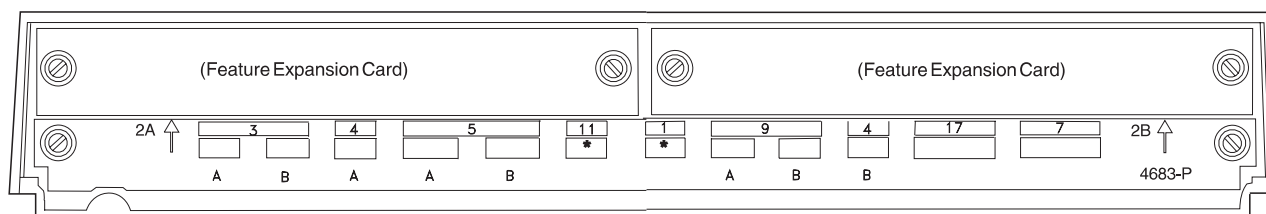

Figure 138. Rear of 4683 Point-of-Sale Terminal Base Unit
- Check "Worksheet B—Terminal installation - 4683" on page 238 for each terminal in the terminal device group and mark an X on Figure 138 to indicate the sockets in which devices are connected.